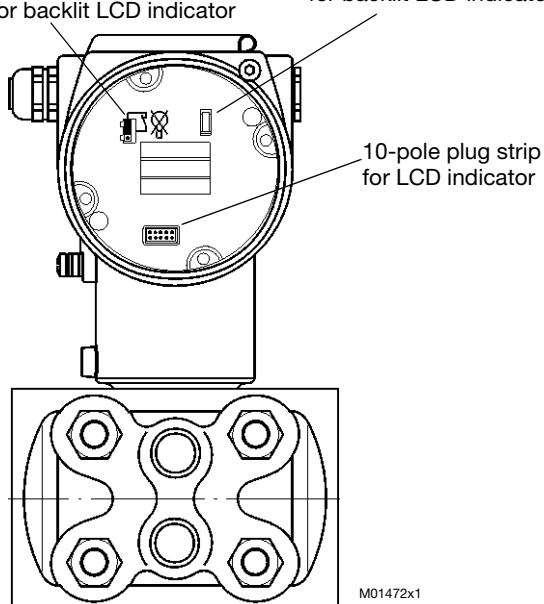

Figure 9. Electronic compartment - LCD indicator mounting
**Note:** If the LCD indicator is backlit (option, however, not for fieldbus transmitters) there is a three-core cable with plug on the back of the indicator. Connect this plug with the 3-pole plug strip in the electronic compartment (see Figure 9) before slipping on the indicator.